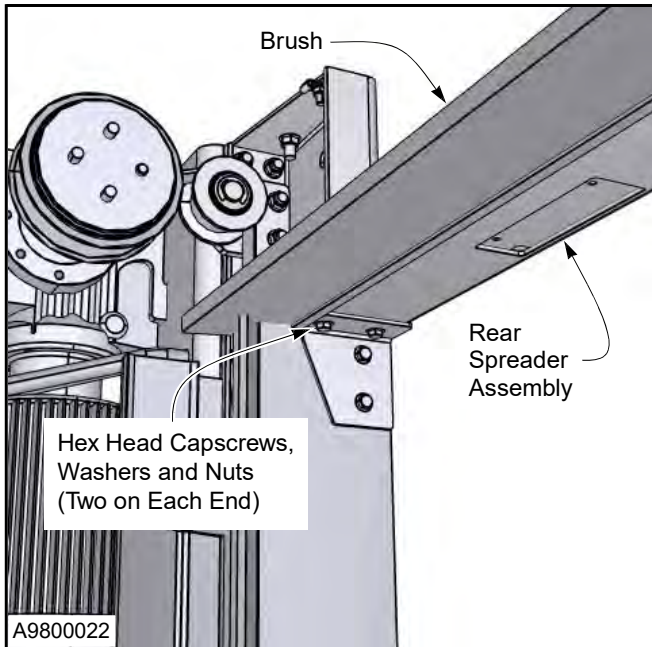

Figure 16
3. Attach the rear spreader assembly to the inside face of each side column using two  $\frac{1}{4}$ -20 x  $\frac{3}{4}$ -in. hex head capscrews, washers, and nuts at each end of the assembly. Position the spreader so the brush is facing away from the wall. (See Figure 16)